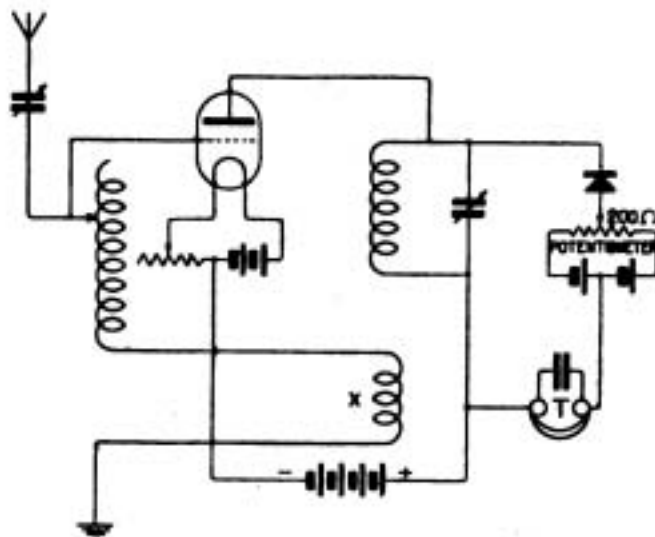

Fig. 6.
R.W.B. (Godalming).—(1) This probably refers to relays of the "Brown" type, which are not easily constructed.
(2) 3 ozs. of No. 44 S.S.C. will probably be sufficient. Yes, it will have to be abolished to rewind the main coil.
(3) Yes.
(4) There is no printing error. The figures in Table 2 are correct for a 10-turn per cm. winding, and these values should be multiplied by 4 to make them correct for a 20 turns per cm. winding, in addition to multiplying them by the "Relative Ind. Factor" (columns 4 and 7, Table 3).
T.G. (Manchester).—Use the circuit shown in Fig. 6. Additional apparatus:—Crystal potentiometer and reaction coil X. Separate the two coils of the loose coupler and make a coil X 4" in diameter wound with 50 turns of No. 24. The frame aerial will not be required in conjunction with the outside aerial. Rewind the 6" former with the No. 22 enamelled wire as 30 is too fine for the aerial circuit.